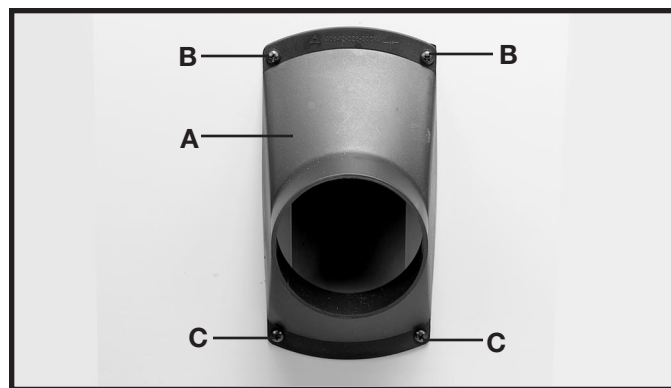

Fig. 15
- A. Align the four holes in the dust port (A) Fig. 15, with the four holes in the side of the stand.
- B. Insert a #10-32x1/2" pan head screw through the two holes in the dust port (B) Fig. 15, and stand. Thread a #10-32 hex nut onto the screw, and tighten securely.
- C. Repeat this process for the two remaining holes (C) in the dust port, stand, and dust chute.